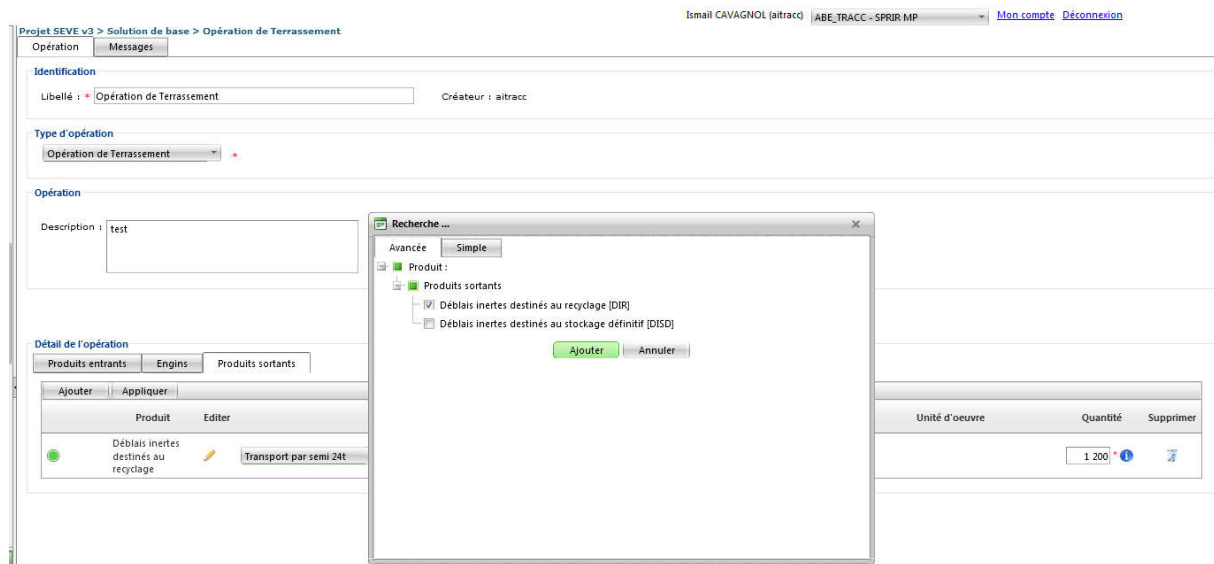

Figure 54 – Inserting products leaving the site
- 28- In the "Operation details" box under the "Outgoing products" tab, click on "Add" (Figure 54)